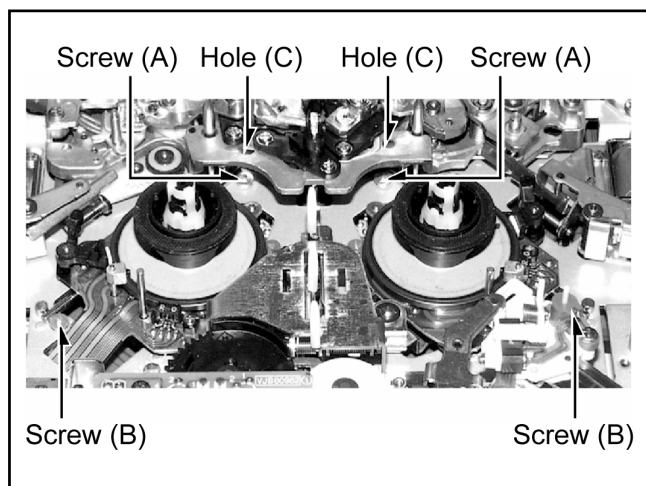

Figure 2-17-1
4. Unscrew the 2 screws (A) on the outer rail. When unscrew, insert the driver to the Hole (C) as shown in figure 2-17-1.
5. Unscrew the 2 screws (B) as shown in figure 2-17-1.